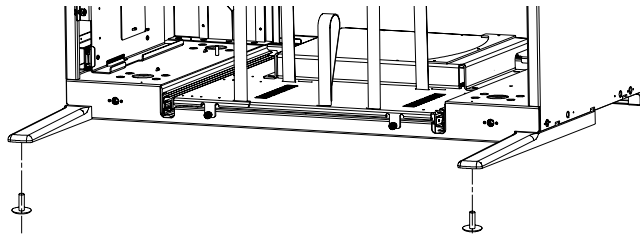

Figure 1-58 Console Stabilizer Pads
- 9.) Attach the two pads to the console stabilizers. Refer to Figure 1-58.